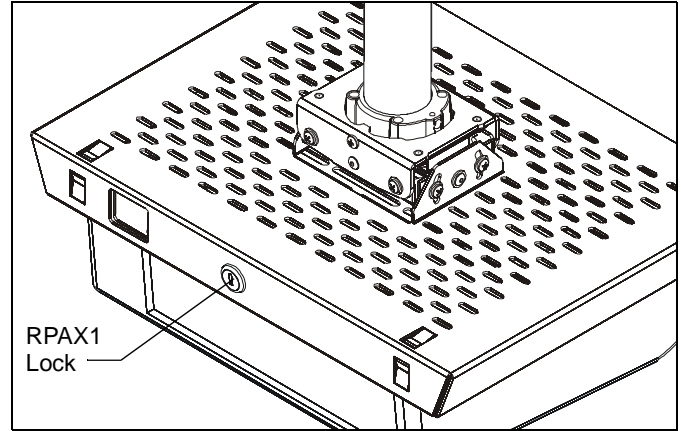

Figure 10
4. Lock the RPAX1. (See Figure 10)